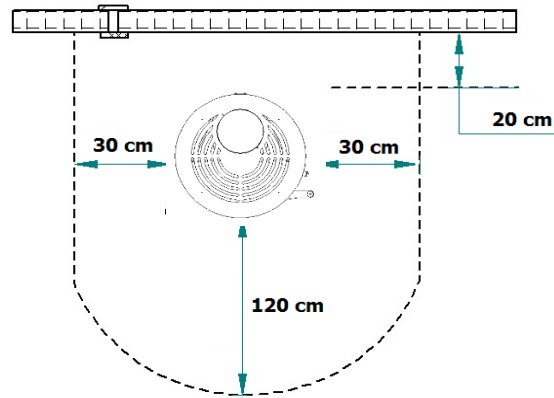

Figure 28 - Minimum safety distances
* Keep any combustible materials away from this appliance. For safety reasons, you should maintain a minimum clearance distance around the unit of 20 cm from the back, 30 cm from the sides and 120 cm from the front (Figure 28);